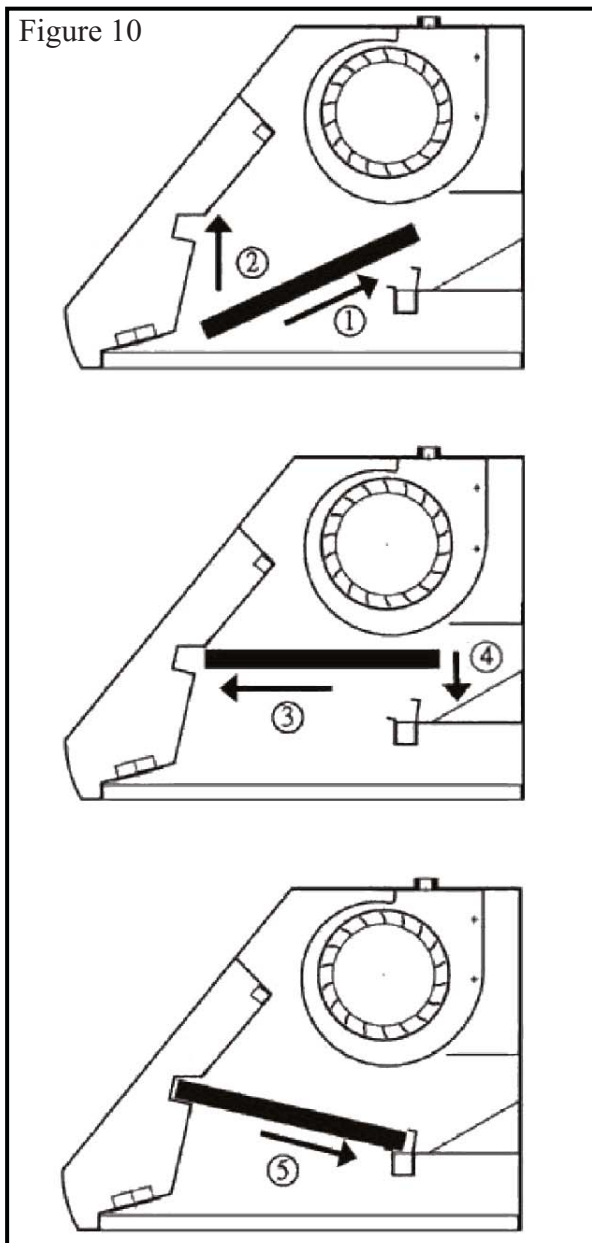

Figure 10
8. To install baffle filters and stainless spacer(s), refer to *Baffle Filters and Stainless Steel Spacers* on Page 18 for baffle filter and stainless spacer placement. Refer to Figure 10 for the following five steps:
- ① Angle baffle filter toward back of hood.
- ② Push baffle filter up until almost level.
- ③ Slide forward into recess behind the front of hood.
- ④ Lower baffle filter.
- ⑤ Slide back until it fits into resting positions.